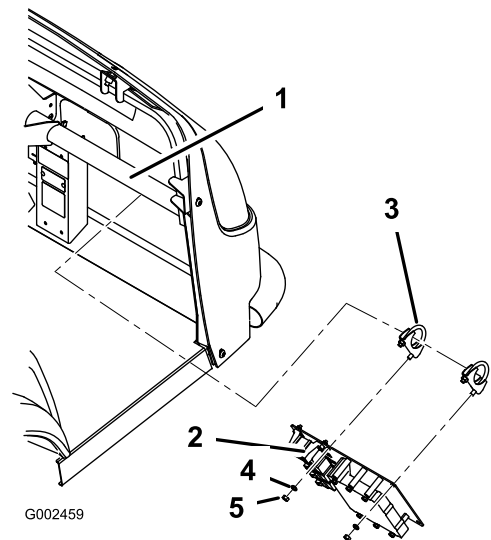

Figure 11
C. For the Workman 200 Spray System, install the mount plate using 2 U-bolt clamps (5/16 x 3/4 inch) 2 nuts (5/16 inch) and 2 lock washers (5/16 inch) as shown in Figure 11.